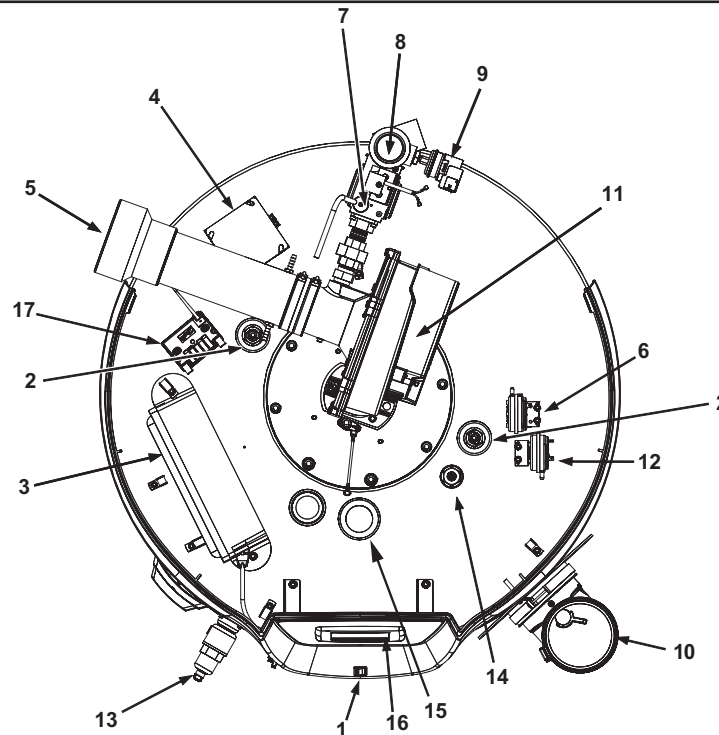

Figure 3. Top View
2. CCB enclosure. See *Figure 3* (page 8) for description.
6. Low Gas Pressure switch. See description under *Figure 3* (page 8). See *Table 4* (page 10) and the Gas Pressure Requirements on page 10.